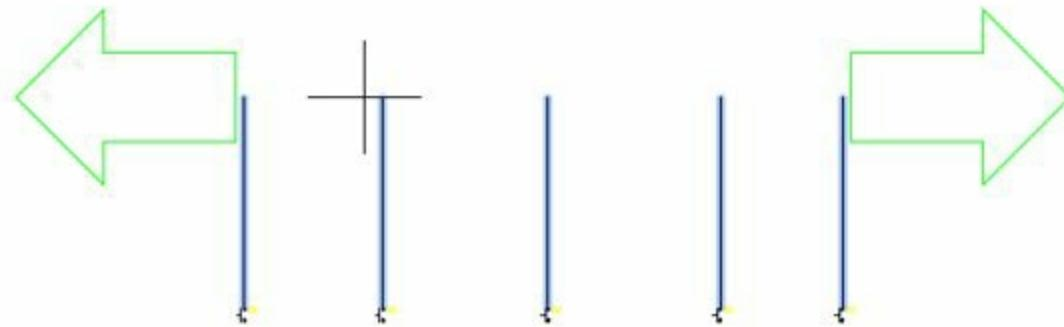

Figure-11. Wires attached to the cursor
- Press ENTER at the command prompt. Wires will get attached to the cursor; refer to Figure-11.